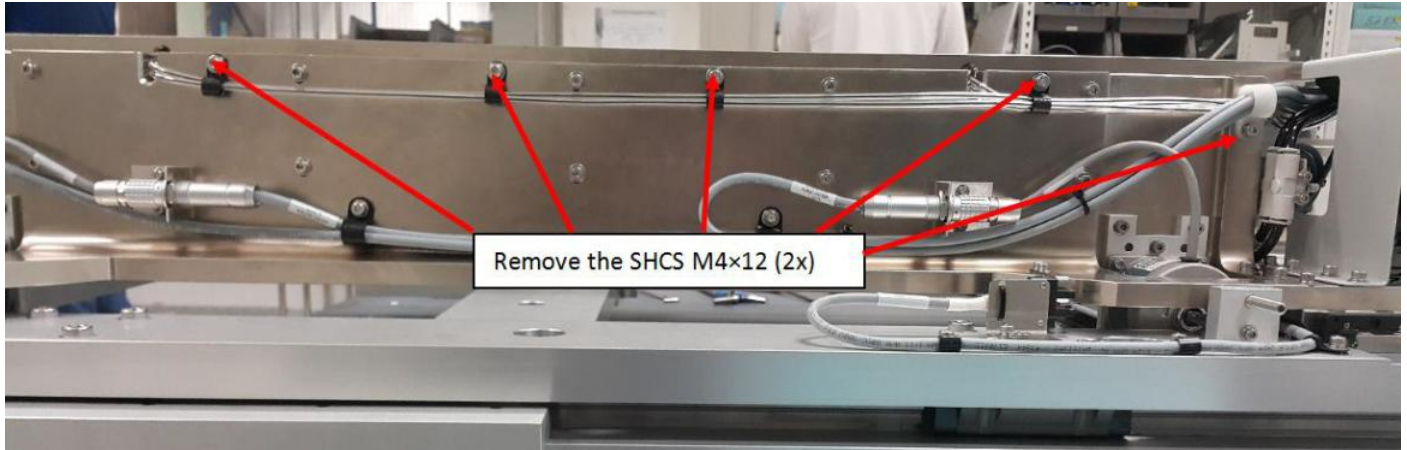

Figure 7 SHCS M4x12
4. Remove SHCS M4×12 (2x) and cable clamp as shown below in Figure 7. Remove entire Sensor 3 Emitter Head Cable as shown from Figure 7 to Figure 13.